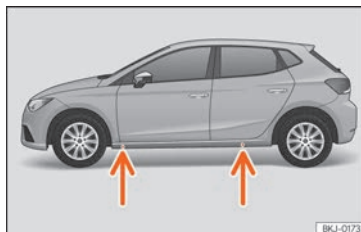

Fig. 76 Jack position points.
• Find the support point on the strut (sunken area) closest to the wheel to be changed » » » Fig. 76.